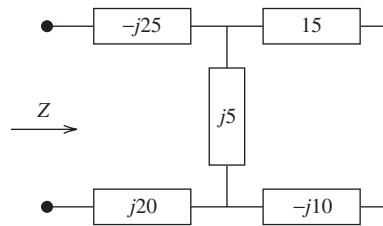

FIGURE P6.25 Circuit for Problem 6.25.
- 6.25 (A) Find Z in Figure P6.25.